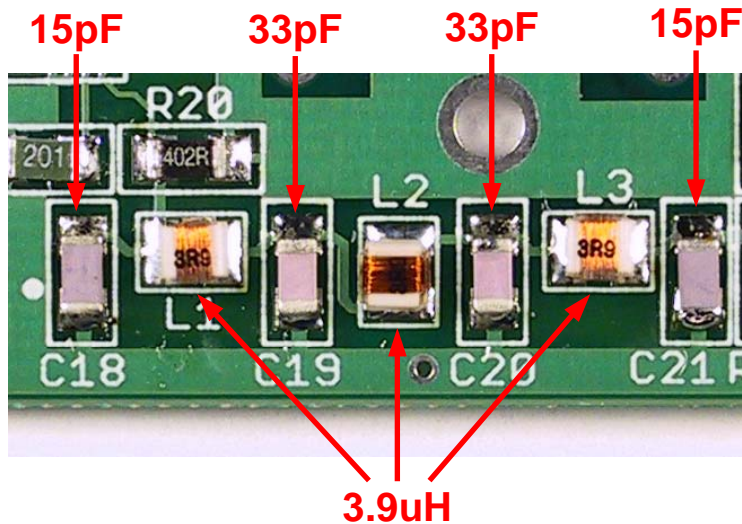

Figure 17. Locations for C18, C19, C20, C21, L1, L2, L3
- ☐ Remove the strip of 15pF capacitors from Bag 1. These are unmarked. Refer to **Figure 17**. Install them at:
- ☐ Remove the strip of 33pF capacitors from Bag 1. These are unmarked. Refer to **Figure 17**. Install them at:
- ☐ Remove the strip of 3.9uH inductors from Bag 1. These are marked 3R9. The inductors are wound on a ceramic core and only have metallization on the bottom side. The plastic top cover is fragile when heated. Don't press on the inductors with a sharp object! Instead, grasp it by its sides. When installing them, place the inductor over the solder-coated pad and heat the pad until the inductor sinks into the molten solder. When the joint cools, heat the other pad and melt solder onto the pad, not the part. Refer to **Figure 17** for placement. Install the inductors at: